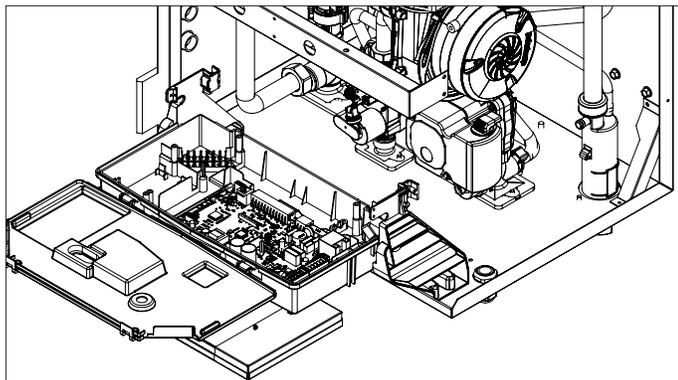

Figure 6 - Access to Low Voltage Wiring Connections
- Open the control panel cover to have access to the main PCB. See Figure 6.